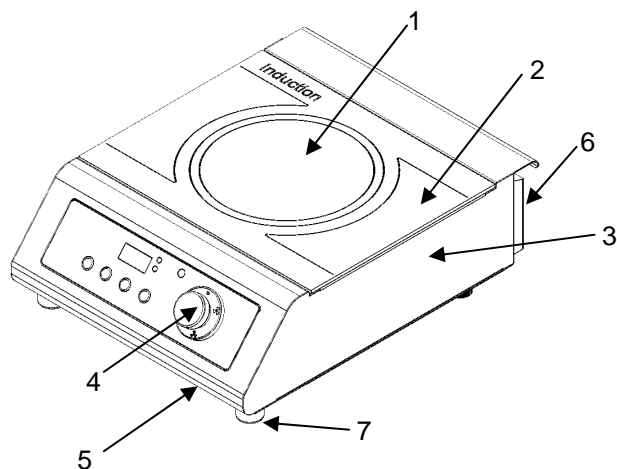

Fig.n.2
4. Turn the knob (*Fig. n.2 – ref. 4*) to turn on the display.